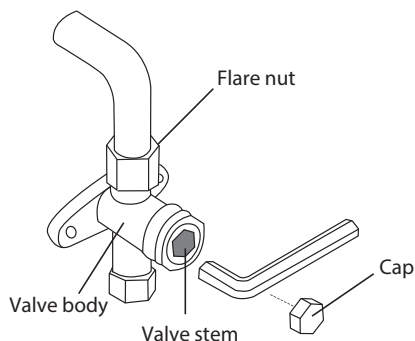

Fig. 23 — Service Valve Diagram
9. Insert a hexagonal wrench into each Gas Side Service Valve for size 18 or into the Master Gas Side Service Valve for sizes 24-48 and open the valve by turning the wrench 1/4 counterclockwise. Listen for gas to exit the system (see Fig. 23).
12. Using a hexagonal wrench, fully open all the gas and liquid service valves for the size 18 and all the Master Gas and Liquid service valves for sizes 24-48 (see Fig. 23).